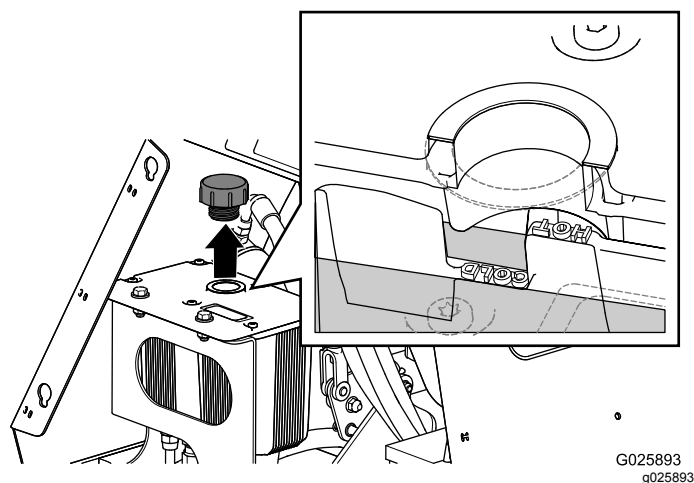

Figure 7
6. Remove the cap and check the hydraulic-fluid level in the reservoir (Figure 7).
7. If necessary, add the specified hydraulic fluid to the reservoir until the fluid covers the **Cold** fluid level on the baffle (Figure 7).
8. Replace the hydraulic reservoir cap and tighten it until snug (Figure 7).